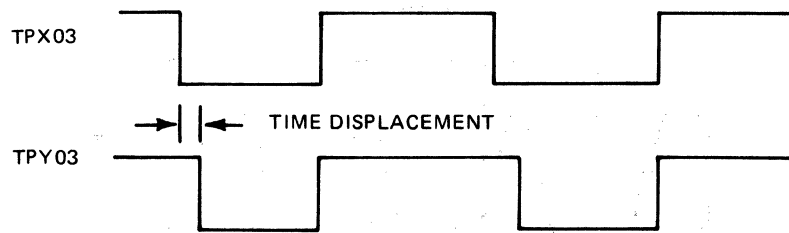

Figure 5-5. Output Waveforms (TP103, TP203, TP603, TP703)
- Using the maintenance switch SW1, run the tape forward. Observe the time displacement between the two signals displayed on the oscilloscope (see figure 5-5). Calculate the amount of displacement (refer to table 5-4).
- b. Use the maintenance switch SW1 to run the tape forward and monitor TP203 through TP903 with Channel B of the oscilloscope. Record the time displacement between Channels A and B of the oscilloscope (see figure 5-5).
- d. Using the maintenance switch SW1, run the tape forward. Observe the time displacement between the two signals displayed on the oscilloscope (see figure 5-5). Calculate the amount of displacement (refer to table 5-4). If displacement is less than 100 microinches, no shimming is required. If the displacement is greater than 100 microinches and TP707 is the leading signal, the guide on the capstan side of the head assembly should be shimmed. Otherwise, shim the other guide. The number of shims required can be calculated as follows: